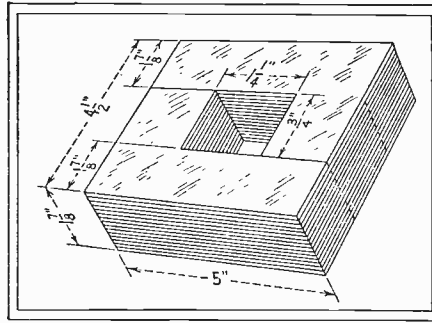

FIG. 135-B—The core of the power transformer is built up, as shown, of silicon-steel strips; each alternate layer being reversed to bind it together.
A. I. We have received a number of letters from our Canadian readers requesting constructional details for building 25-cycle power-supply units. For this reason, we are including data for constructing both the unit and the transformer and chokes to be employed in it. The diagram of the power unit will be found in Fig. 135-A. As will be noticed, the unit has been designed to employ an 85-milliamper tube and is provided with two variable voltage output taps. This will permit the use of this unit with any type of receiver. Because of the lower frequency of this current, larger chokes and condensers are required than with 60-cycle A.C.
In Fig. 135-B will be found the constructional details for the core of the power transformer. This core should be built up of silicon steel .014-inch thick. The "L" shaped laminations should be cut to shape, with either a hack-saw or a cold chisel, and the edges should be filed down so that no sharp points will remain. A sufficient number of laminations should be cut to make a pile 1 7/8 inches high for each side of the core. After each lamination has been cut and its edges smoothed it should be shellacked carefully with a thin coat of white shellac. This is for the purpose of insulating the laminations in order to keep the eddy currents and heating effects in the core at a minimum.